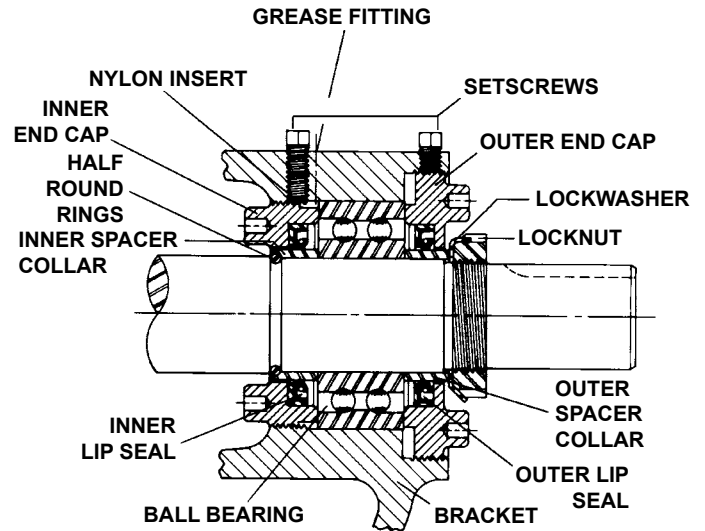

FIGURE 5
8. Loosen the four setscrews over the outer and inner end caps. Remove both end caps, ball bearing and bearing spacer collars. **See Figure 5, page 9.** **NOTE:** The inner end cap can be removed through the side openings in the bracket.